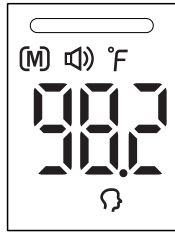

Figure 7
2. The thermometer will automatically memorize the last 36 temperature readings. Each memory also records the measurement mode icon. Each time the *Memory Button* is pressed, the screen displays past readings that correspond with a number 1-36. The number 1 reflects the most recent reading, while the number 36 reveals the oldest reading stored in memory. (See Figure 7)